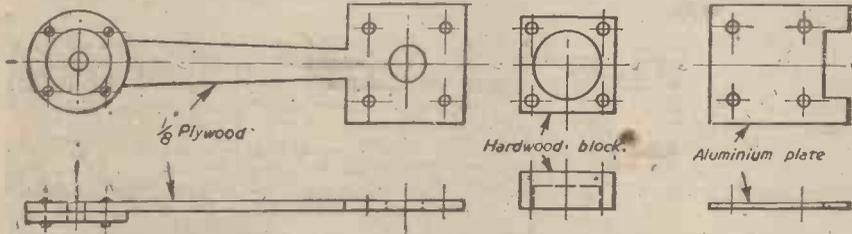

Fig. 6.—Details of radius arm, ball-race housing, and guide-plate. (Half full size.)
The rear axle (A, Fig. 4) is of 1/2 in. mild steel rod, turned down for 3/16 in. at each end, and screwed 2-BA at its extremities. The axle is carried in two 3/4 in. ball-races (B), housed in blocks of 3/4 in. hardwood, recessed with a 3/16 in. bit to allow the races to fit flush (Fig. 6). The housings are then capped by the rearward ends of the radius arms, which pivot outside the frame, the inner faces having guide plates projecting forward to locate them in the frame, sufficient clearance being allowed to ensure that the radius arms swing freely. Radius arms, housings and guide plates are secured together by 6-BA